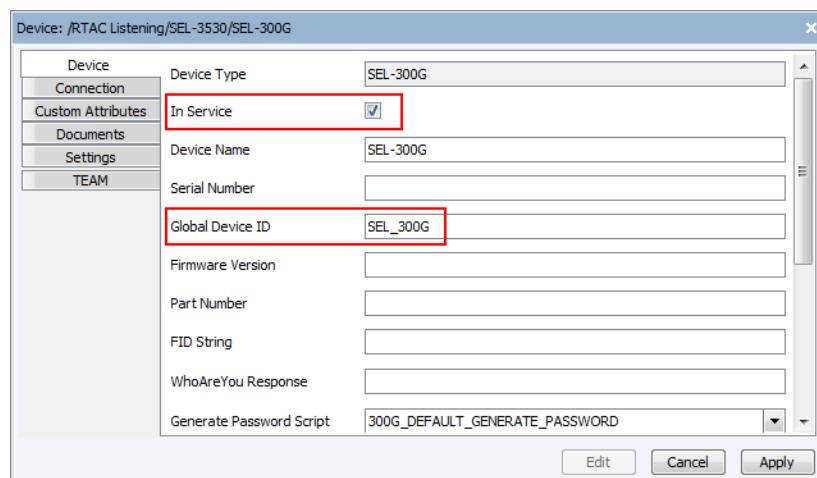

Figure 147 SEL-300G TEAM Configuration
Step 15. Configure the relay (the SEL-300G in this case). Double-click **SEL-300G** and select **Edit** in the lower right corner. On the **Device** tab, select the **In Service** check box and change the **Global Device ID** to match the **Device GUID** (which was configured in ACCELERATOR RTAC in *Step 16* in *Part 1: Configuration in ACCELERATOR RTAC*), as shown in *Figure 147*. TEAM configuration does not distinguish between serial and Ethernet relay connections.